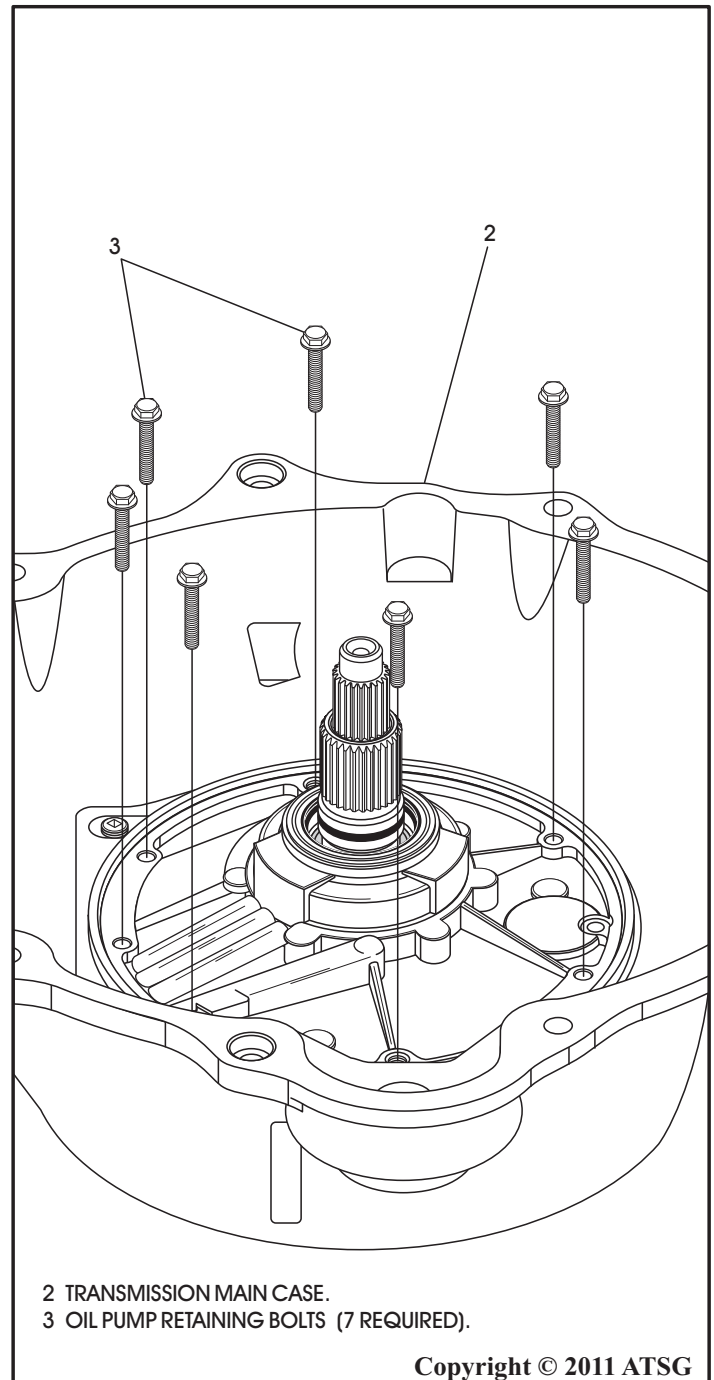

Figure 75
35. Remove the seven oil pump retaining bolts, as shown in Figure 75.